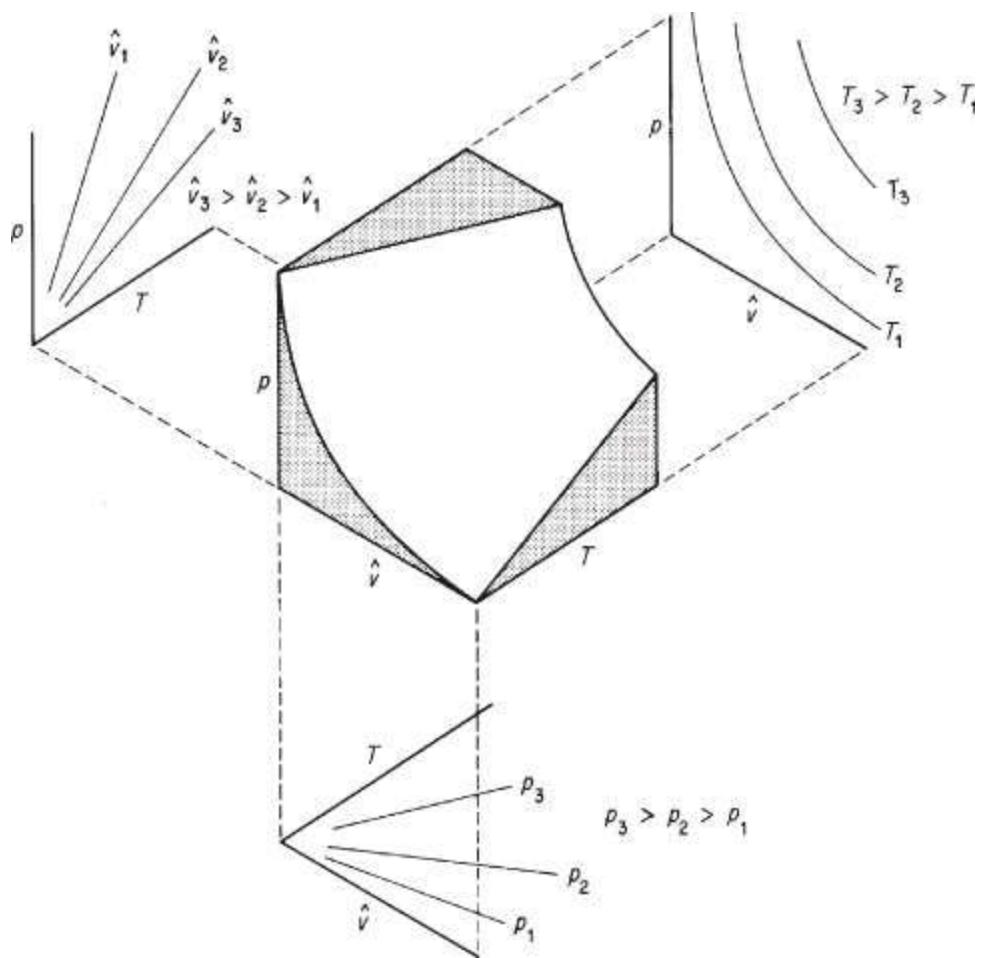

Figure 7.2. Representation of the ideal gas law in three dimensions as a surface
Note that in Equation (7.1a) \hat{V} is the *specific molar volume* (volume per mole, V/n) of the gas. When gas volumes are involved in a problem, \hat{V} will be the volume per mole and not the volume per mass. The inverse of \hat{V} is the molar density, moles per volume. Figure 7.2 illustrates the surface generated by Equation (7.1a) in terms of the three properties p , \hat{V} , and T . Look at the projections of the surface in Figure 7.2 onto the two-parameter planes. The interpretation is as follows:
Although you cannot easily measure the partial pressure of a gaseous component directly with commercial instruments, you can calculate the value from Equation (7.5) and/or Equation (7.6). To illustrate the significance of Equation (7.5) and the meaning of partial pressure, suppose that you carried out the following experiment with two nonreacting ideal gases. Examine Figure 7.2. Two tanks of 1.50 m^3 volume, one containing gas A at 300 kPa and the other gas B at 400 kPa (both gases being at the same temperature of 20°C), are connected to an empty third tank (C) of the same volume. All of the gas in tanks A and B is forced into tank C isothermally. Now you have a 1.50 m^3 tank of A + B at 700 kPa and 20°C for this mixture. According to Equation (7.5), you could say that gas A exerts a partial pressure of 300 kPa and gas B exerts a partial pressure of 400 kPa in tank C. Of course, you cannot put a pressure gauge on the tank and check this conclusion because the pressure gauge will read only the total pressure. These partial pressures are hypothetical pressures in tank C that the individual gases would exert if each was put into separate but identical volumes at the same temperature.